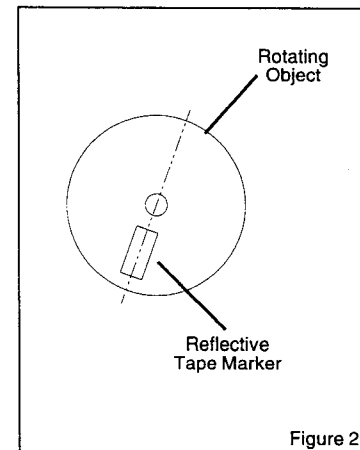

Figure 2
2. Cut a piece of reflective tape approximately 3/4" (2 cm) long and place it on the object to be measured, see Fig. 2. Always place the marker in line with the diameter of the object (as shown by the dotted line in Figure 2.). The size of the object being measured is relevant to the size of the reflective tape marker; on large objects a longer piece of tape will make it easier to obtain readings.